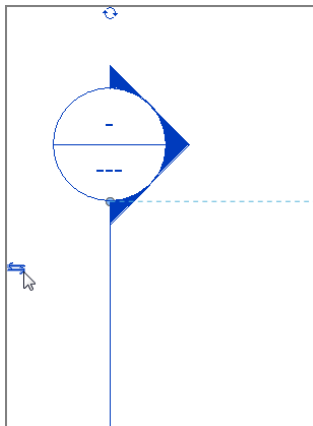

FIGURE 3.34: After you select the section, you'll see the flip grip.
5. With the section placed, it looks like you need to flip it to face the wall you intended to modify. A few blue icons appear. You're interested in the icon that looks like two arrows. This is a *flip grip*. It's the same thing you saw in the doors and windows (see Figure 3.34).